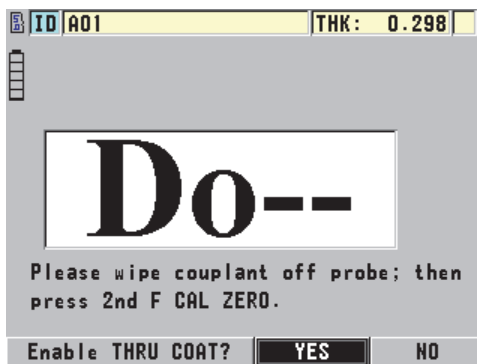

Figure 6-6 Opening the THRU-COAT setup dialog box
4. Press [**2nd F**], [**CAL ZERO**] (**Do ZERO**) (see Figure 6-6 on page 77).